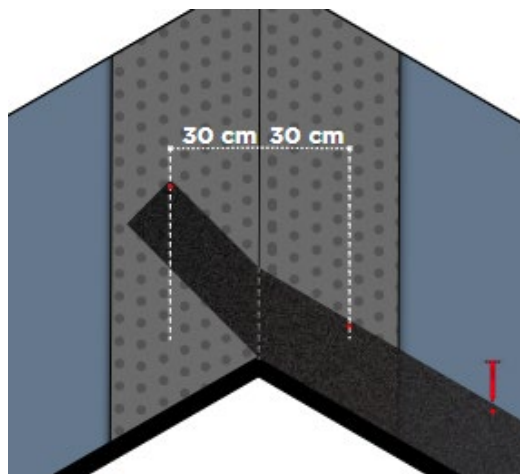

Fig. 14 -Start Line SA installation at the valleys
- As for the roof valleys, prepare a band of bituminous membrane R-evolution N about 100cm wide, to ensure its waterproofing - Fig. 14. Install the Start Line SA making it rise 30 cm above the valley line. Fix the Start Line SA by nail, up to and beyond 30 cm from the valley line.